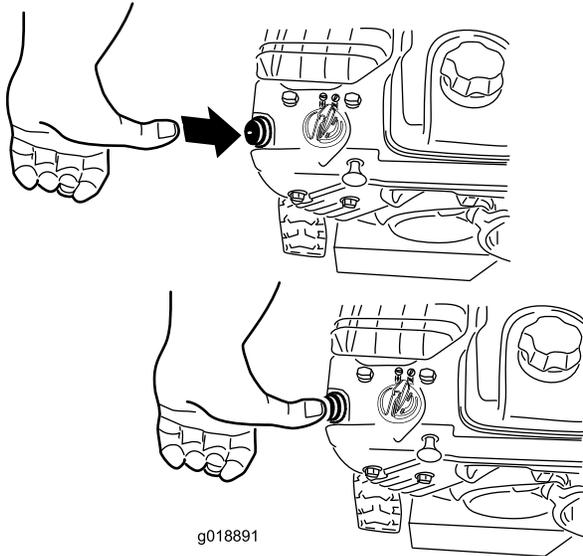

Figure 23
- Firmly push in the primer with your thumb 2 times (15°F or -9°C or above) or 4 times (below 15°F or -9°C), holding the primer in for a second before releasing it each time (Figure 23).